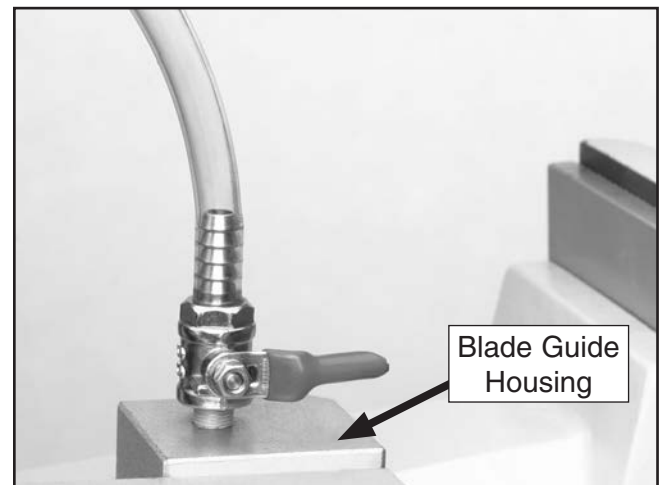

Figure 12. Cutting fluid control valve.
4. Turn the cutting fluid pump switch **ON**, and adjust the valves on the cutting fluid hoses to control the flow of cutting fluid (see **Figure 12**).